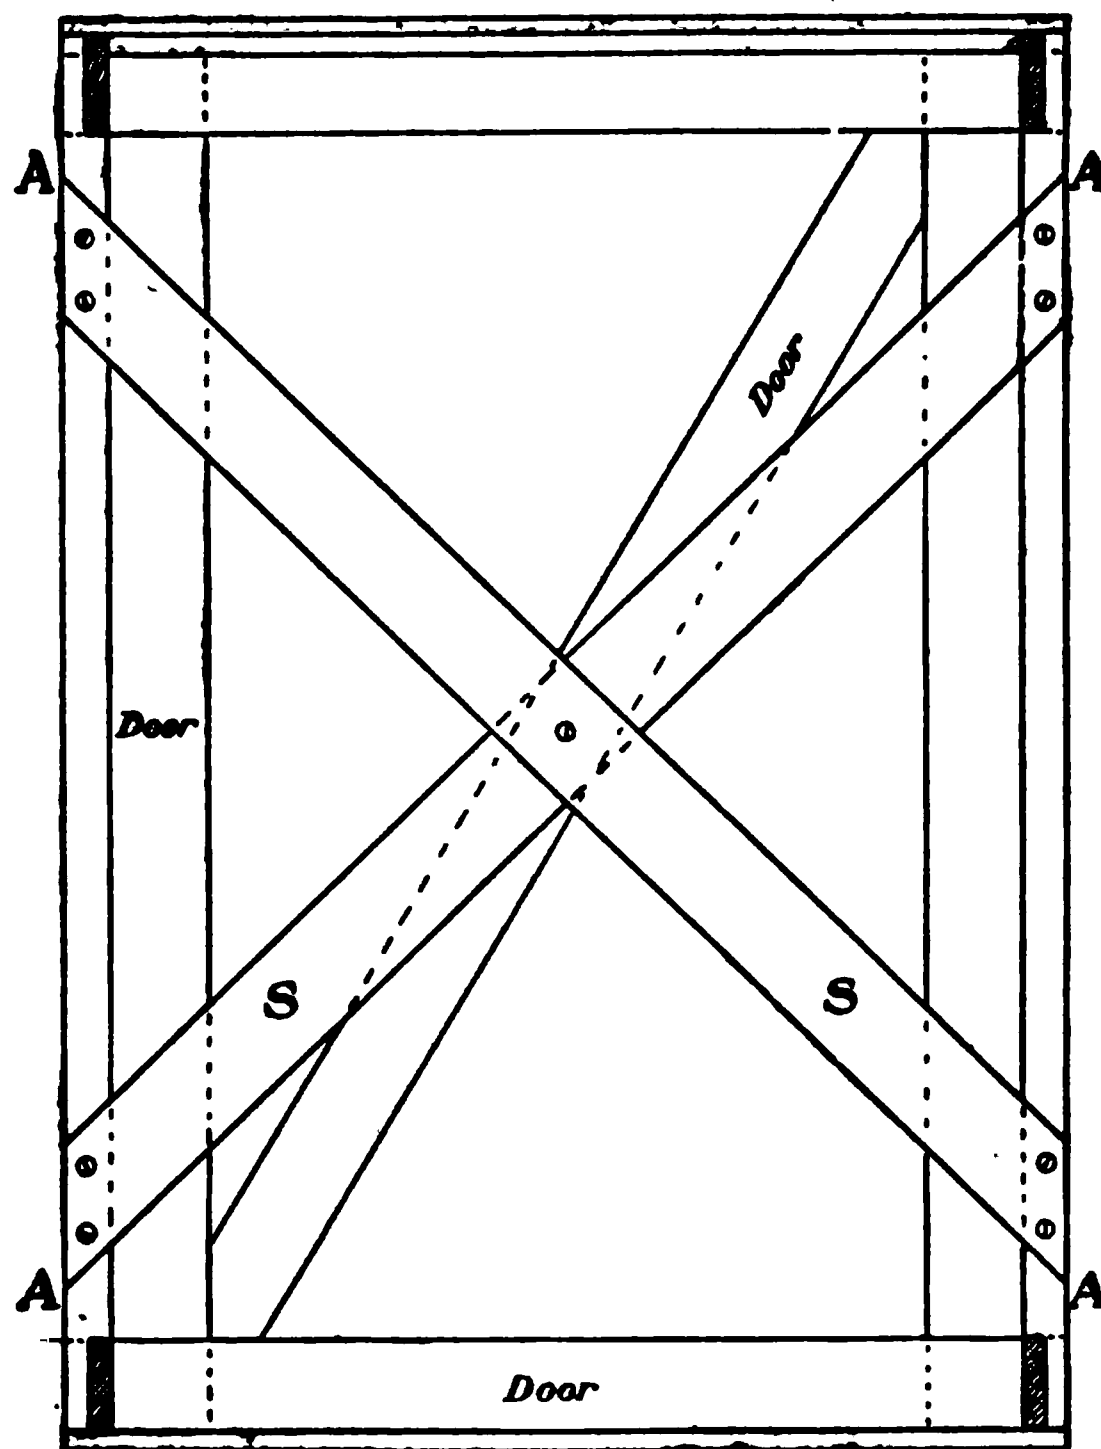

Fig. 37.—Back frame of meat safe.
*The Back Struts.*—Turn the framework back upwards, and make guide marks (Fig. 37, A A A A) on the outside corners of the uprights 3 in. from each end.